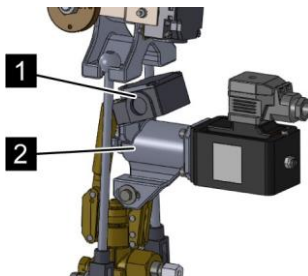

Fig. 78: Mounting the monitor
22. ➤ Connect the limit switch (Fig. 78/1) as shown in the terminal diagram ➤ “Monitoring of the release device EM” on page 127.
23. ➤ Loosely fasten the limit switch (Fig. 78/1) with cylinder-head screws and washers on the holder of the EM release device (Fig. 78/2).
24. ➤ Align the limit switch (Fig. 78/1) in such a manner that the contact is activated with the valve lever.